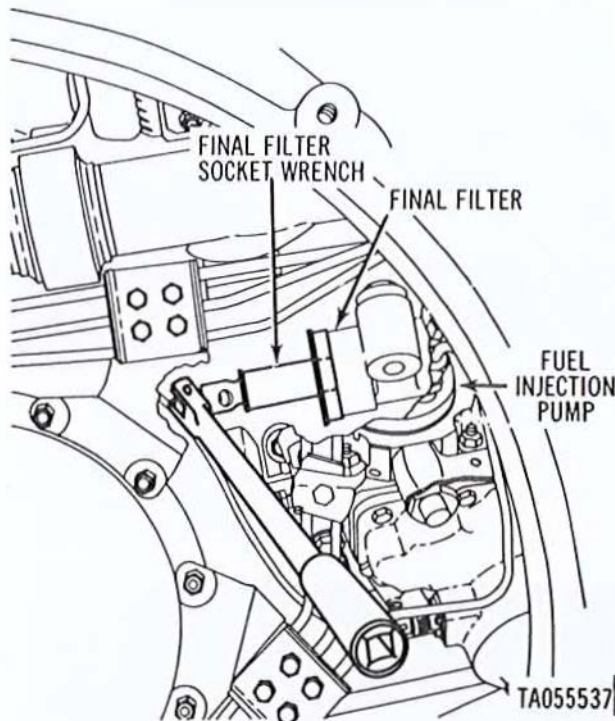

Figure 2-69.1. Removing final filter retainer using socket wrench.
(1) Remove the front cooling fan vane cooling fan, refer to paragraph 2-21a.
(2) Clean the area around the fuel injection pump and fuel inlet hose to preclude the entrance of foreign material into the filter housing cavity.
(3) Disconnect the final filter inlet hose.
(4) Cut and remove locking wire from final filter retainer. Remove filter retainer (with adapter installed) using socket wrench, Part No. 12254213 (fig. 2-69.1). Remove and discard retainer preformed packing. Remove and discard filter.